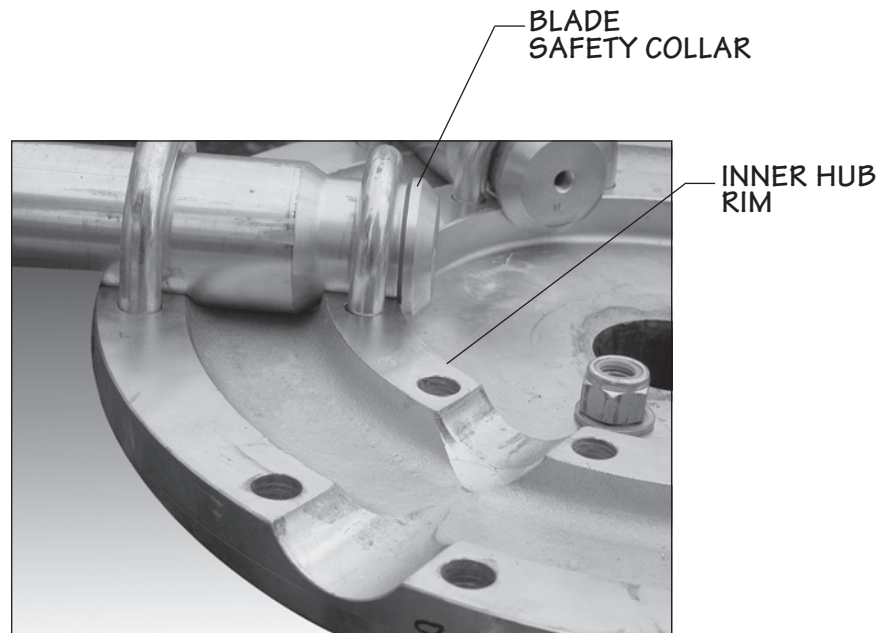

Figure 3
- 4—Ensure the blade shank safety collar is inboard of the inner hub rim. Refer to **Figure 3**.
6—Pull blade radially outward to be certain the shank safety collar is in contact with hub inner ring. Refer to **Figure 3**.